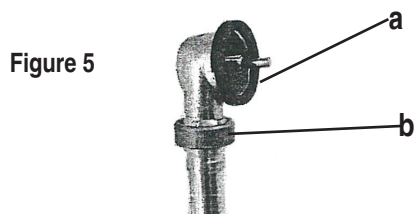

Figure 5
- Remove (unscrew) the overflow clamp plate and ferrule from the overflow body, ensure that the seal [Figure 5 (a)] is securely held in place on the top of the overflow body.
- Position the overflow body behind the bath overflow. Loosen the swivel ball coupling nut [Figure 5 (b)] until the swivel ball joint can be tilted easily by hand. Adjust the swivel ball joint to a suitable angle so that the overflow seal is mated flush with the outer surface of the bath surrounding the overflow. Hand-tighten the swivel ball coupling nut to hold this position.